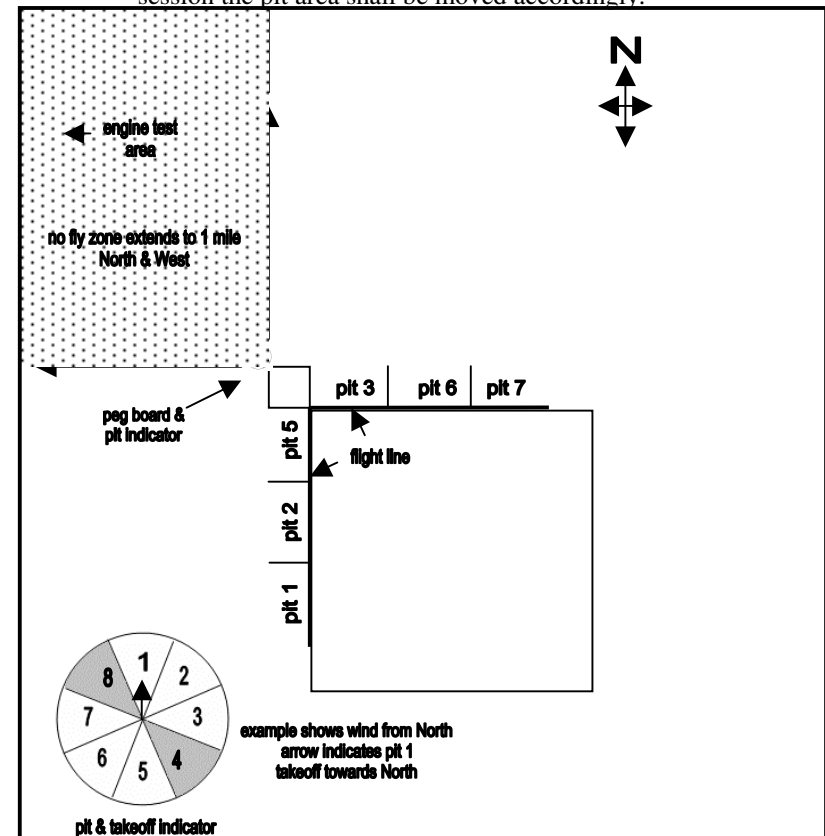

Figure 2 Pits Positions for various take off directions
6.2.1.1 The Society operates a system on the Landmead site whereby only two alternative flightline positions are permitted. This is intended to prevent spectators or pilots from crossing the landing/take off area as they transit to and from the car park. Depending on wind direction, pits are set up as shown in Figure 2.